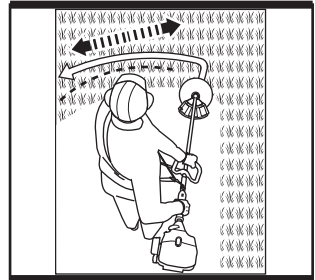

Fig. 15b
- 6). Move the product with slow and regular arc from left to right before moving it back to the starting position before trimming the next area. (See Fig. 15b)